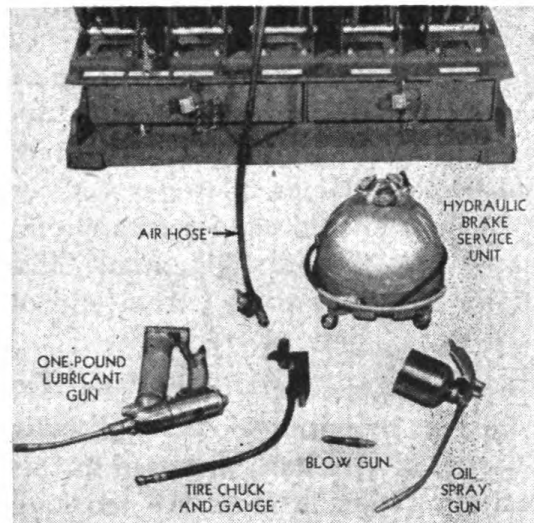

Figure 4
9. Reel, Air Hose, and Tire Gauge. The gauge may easily be disconnected from hose, so that air hose can also be used for operating the one-pound grease gun, spray gun, or the small Flex-Tip blow gun. Figure 4 illustrates the air hose and the accessories with which it is used.